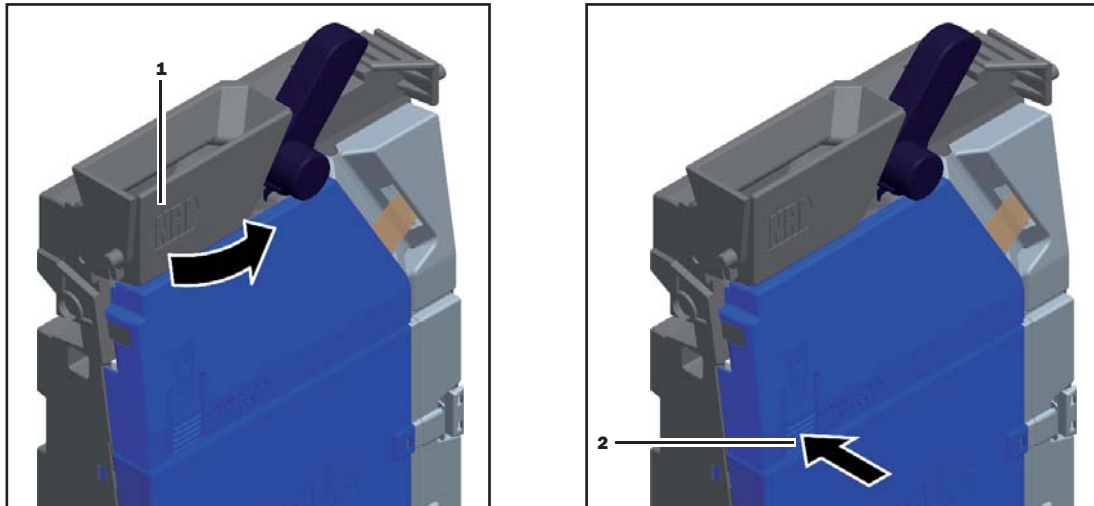

Fig. 15: Opening and closing the flight deck of the coin validator
- 2** Pull the coin insert funnel [Fig. 15/1] at the front and open the flight deck beyond the first stop.
- 7** Close flight deck and press closing device [Fig. 15/2] so that the flight deck audibly clicks into place.